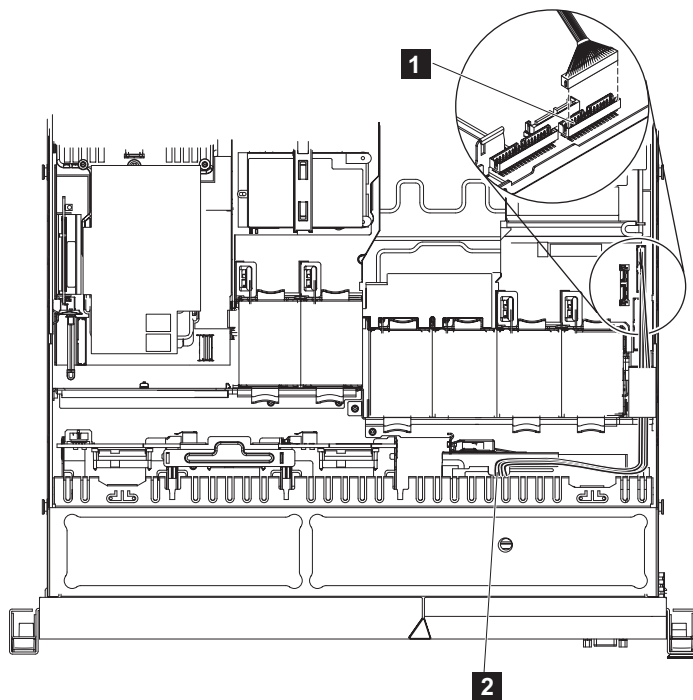

Figure 229. Connecting the SAN Volume Controller 2145-CF8 operator-information panel cable
2. Thread the new cable from the operator-information panel to the connector above the Video/USB cable connector on the right side of the node, as shown in Figure 229.
3. Connect the cable to the connector above the Video/USB cable connector on the right side of the node, as shown in Figure 229.